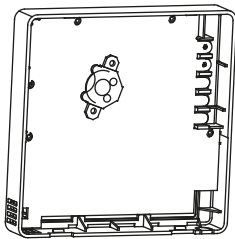

Fig. 3-5
- Put the battery into the installationsite and make sure the positive side of the battery is in accordance with the positive side of installationsite.(See Fig.3-5)